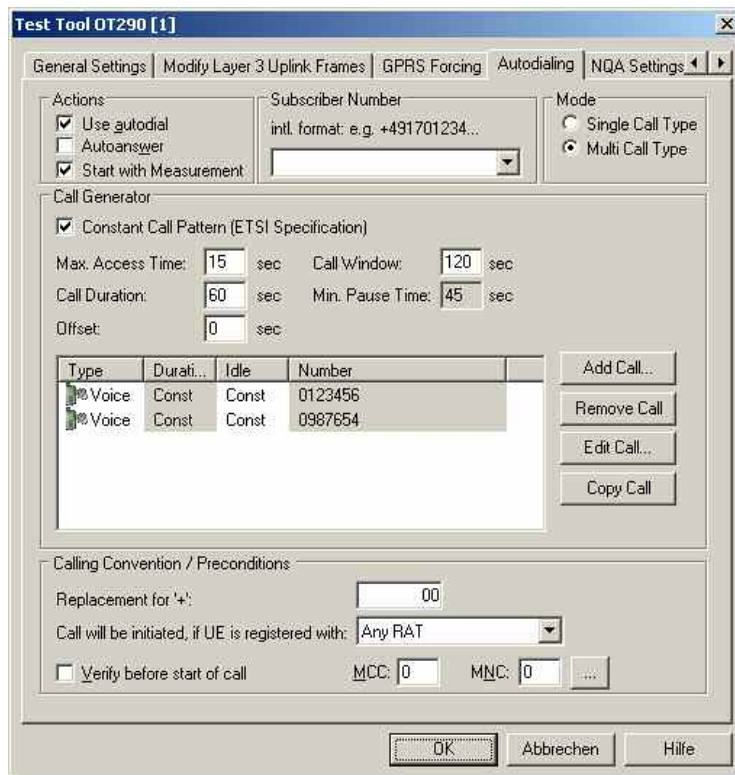

Fig. 6-25 Driver Configuration – Autodialing tab (Sagem x6, multi call type)
- A multi call is a sequence of calls with individual call settings, to be configured in the multi call version of the *Autodialing* tab (see Fig. 6-25 on p. 6.1). The call sequence is periodically repeated if *Use autodial* is selected.